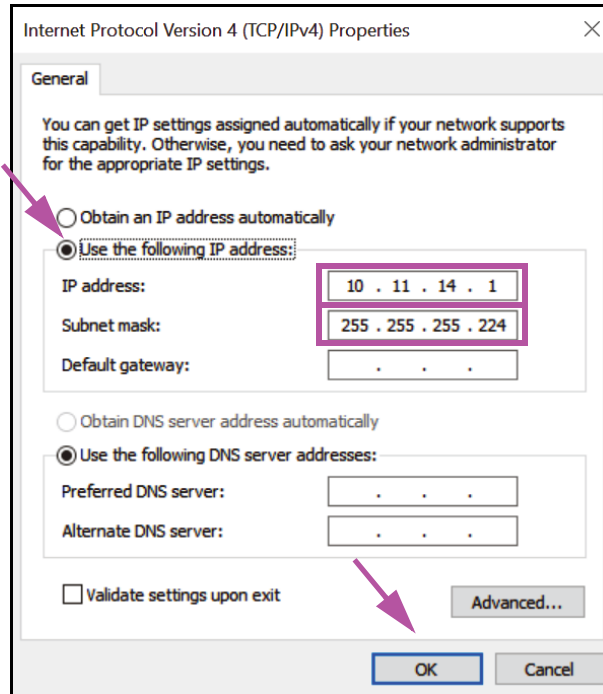

Figure 2-20. Internet Protocol Version 4 (TCP/IPv4) Properties Screen
- On this screen, select **Use the following IP address:**. See Figure 2-20.